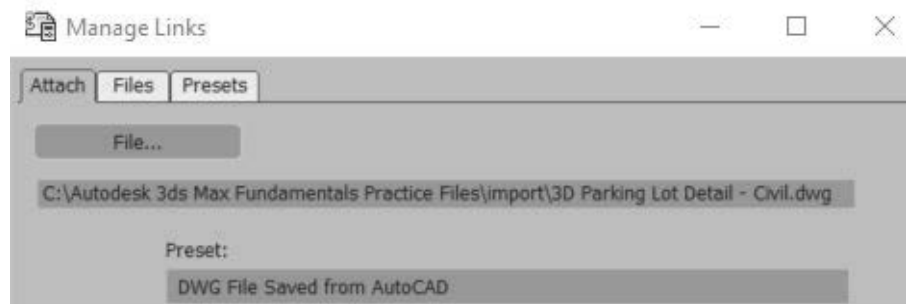

Figure 3–23
2. Select **File>Import>Link AutoCAD**. In the Open dialog box, browse and open the ...\*import* folder in the practice files folder. Select **3D Parking Lot Detail-Civil.dwg** and click **Open**. The Manage Links dialog box opens and displays the full path of the file, as shown in Figure 3–23. The full path must display for the import to work correctly.